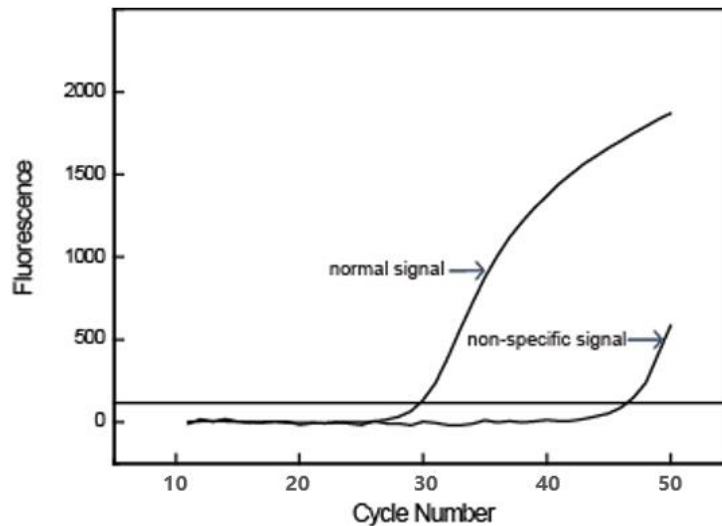

Figure 3. Non-specific signal in sample
- b. C_q values for positive sample signals should be below 40. C_q values above 40 might be non-specific amplification (shown in **Figure 3**). Repeat the test with fresh RNA, if the second test is positive, the sample is positive for the corresponding fusion gene. Other methods are recommended to be used to confirm the results from positive tests with C_t values above 40.